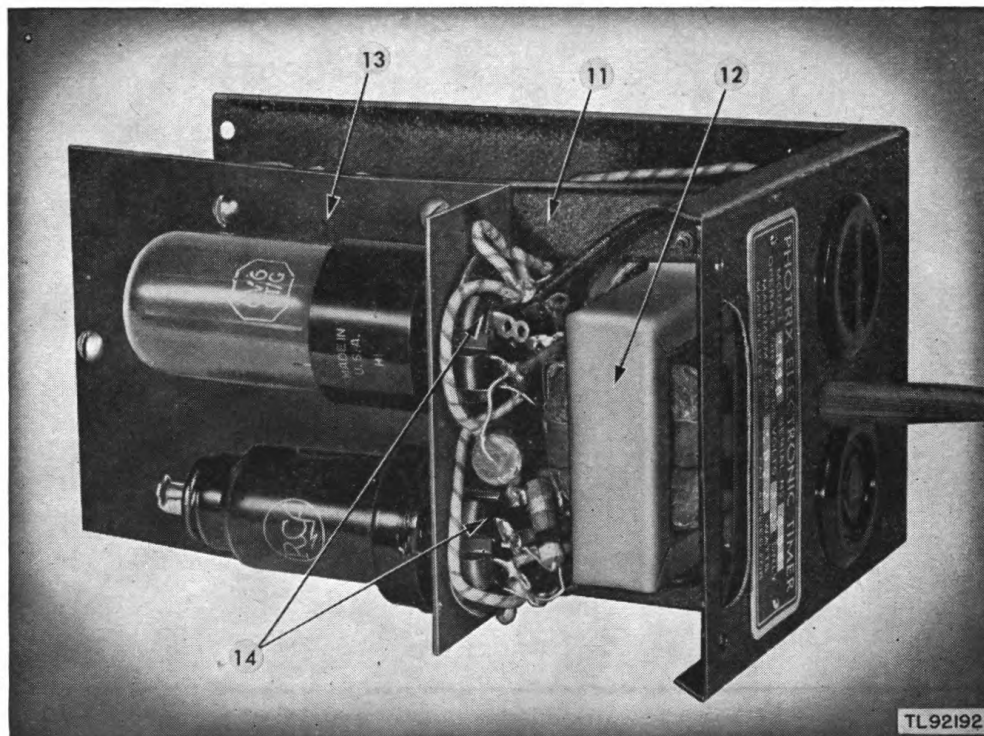

Figure 3. Bottom view of chassis.
(3) *Subpanel* (figs. 3 and 4). The L-shaped subpanel ⑬, fitted with tube sockets ⑭, is braced at its front end to the top panel and screwed to the supports that are welded to the rear panel. The subpanel mounts the relay ⑮ and the capacitors ⑯, as well as the two vacuum tubes, V1 ⑰ and V2 ⑱.